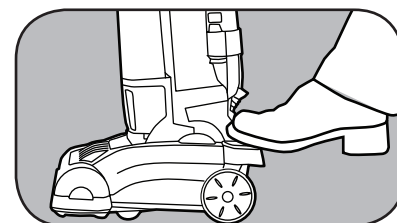

Fig. 1
1. To release the handle, step on the handle release pedal on the left side of the vacuum cleaner nozzle from the user's perspective and pull back the handle (Fig. 1).